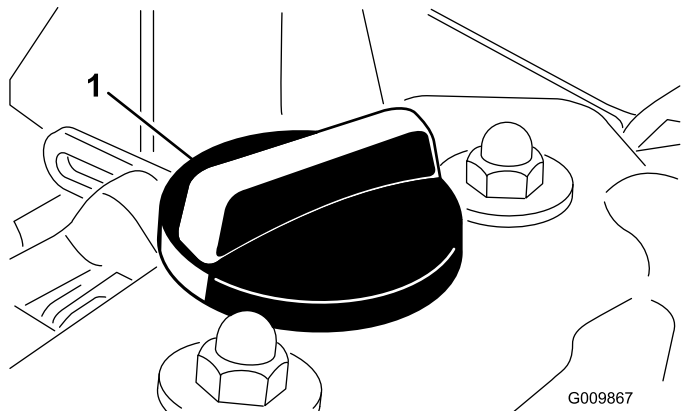

Figure 24
4. If the oil level is below the Full mark, remove the fill cap (Figure 24) and add oil until the level reaches the Full mark on the dipstick. **Do not overfill.**